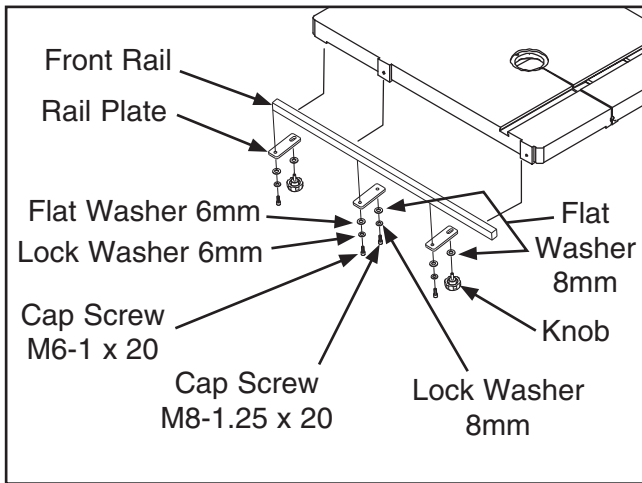

Figure 28. Installing front rail onto table.
1. Attach the rail plates to the front rail with the (3) M6-1 x 20 cap screws, 6mm lock washers, and 6mm flat washers (see **Figure 28**).
2. Attach the outer two rail plates with the round and elongated mounting holes to the outer part of the table bottom with (2) M8-1.25 x 20 knobs and 8mm flat washers.
3. Attach the remaining rail plate with the round mounting holes using (1) M8-1.25 x 20 cap screw, 8mm lock washer, and 8mm flat washer (see **Figure 28**).